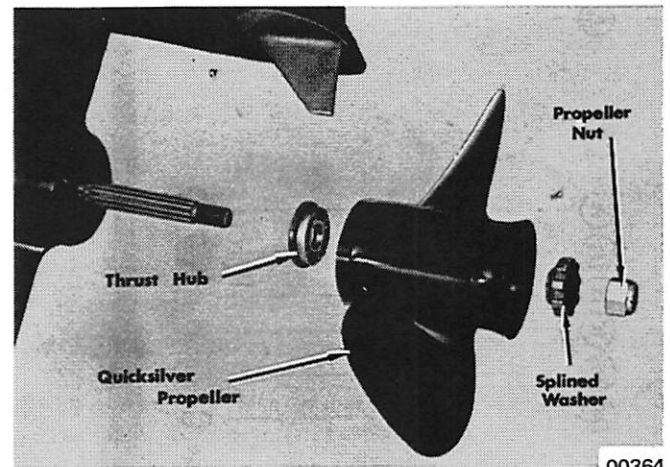

Figure 1. Propeller Installation
#### INSTALLING PROPELLER (Figure 1)
2. Apply thin coat of New Multipurpose Quicksilver Lubricant (C-92-49588) on splines of propeller shaft. (Figure 1)